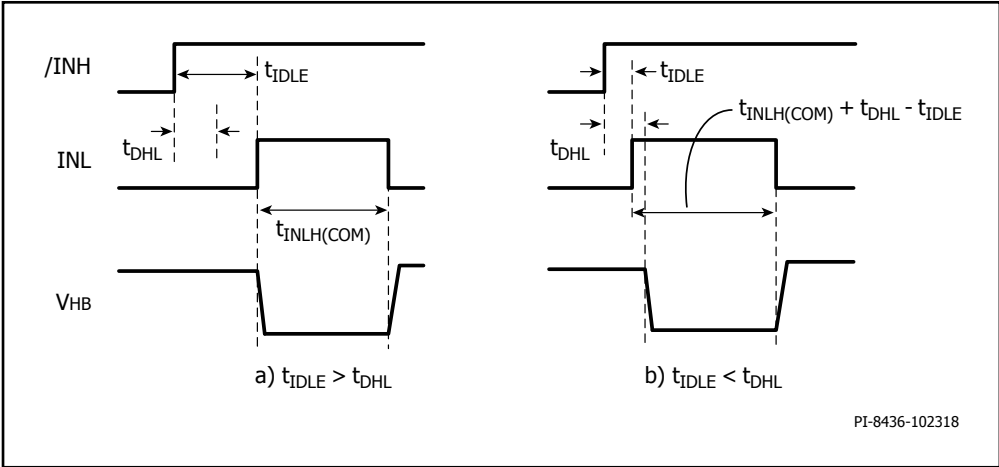

Figure 24. Minimum INL High Time Required for Device Internal High-Side Status Update a)  $t_{IDLE} > t_{DHL}$  b)  $t_{IDLE} < t_{DHL}$ .
- G. Assumes control input /INH was high for an idling period of tIDLE > tDHL. The required minimum INL high time for internal communication increases by tDHL - tIDLE if tIDLE < tDHL (refer to Figure 24).